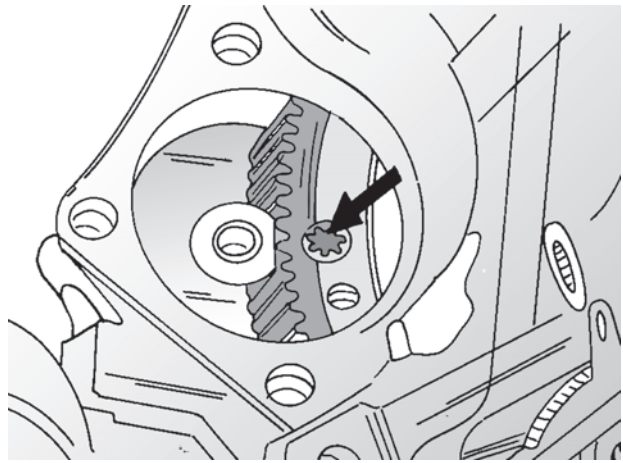

Fig. 1.8. – The drive plate to torque converter bolts will appear in the starter motor opening when the engine is rotated.
- Unbolt the torque converter from the drive plate. The converter is secured by three bolts, which will be visible through the opening for the starter motor. Rotate the engine until the bolts appear one after the other, as shown in Fig. 1.8 and unscrew them.